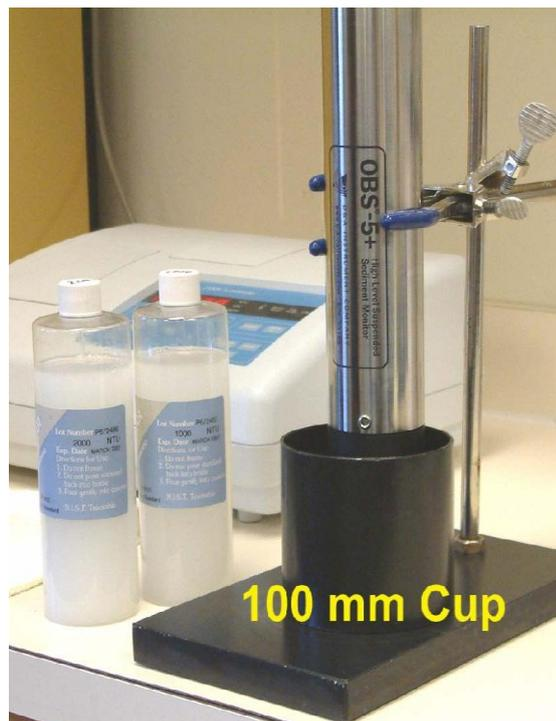

Figure 7-5. OBS-5+ in 100 mm cup
- 5) Enter 0.3 in the value box and click the record button to log the clear-water data point. The unit will take 1,200 measurements in 60 seconds. When the process is complete, the data appear in the data table and the point will be plotted on the calibration graph. If you are satisfied with the data, mount the unit in a 100 mm calibration cup as shown in Figure 7-5.